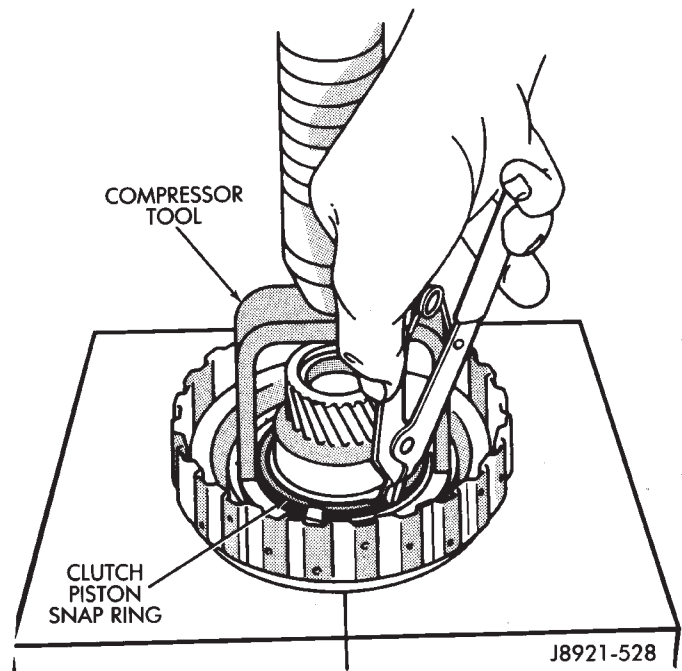
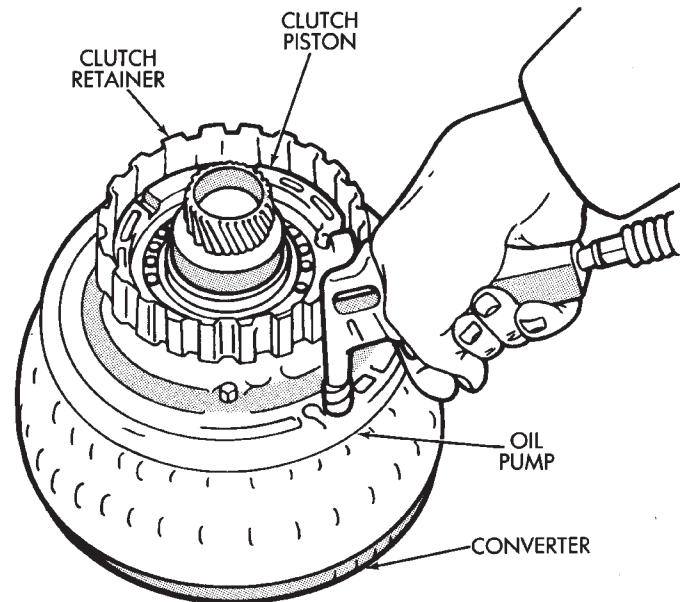

Fig. 8 Removing Clutch Piston Snap Ring
Fig. 9 Removing Overdrive Clutch Piston
(7) Compress piston return spring with Tool 7538 (Fig. 8). Remove snap ring and remove compressor tool.
(8) Remove compressor tool and piston return springs.
(9) Mount oil pump on converter. Then mount clutch on oil pump (Fig. 9).
(10) Hold clutch piston by hand and apply compressed air through oil pump feed hole to ease piston out (Fig. 9). Apply only enough air pressure to remove piston.